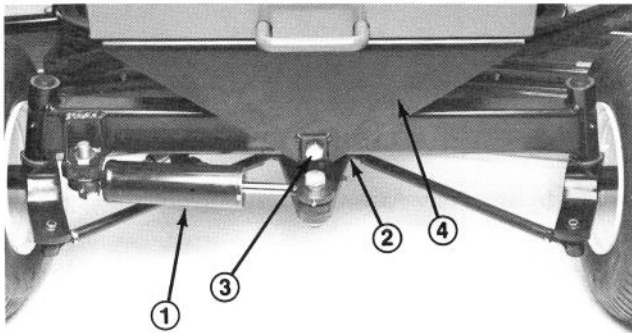

Figure 1
3. Remove capscrew and washer from pivot pin securing axle to axle support (Fig. 1).